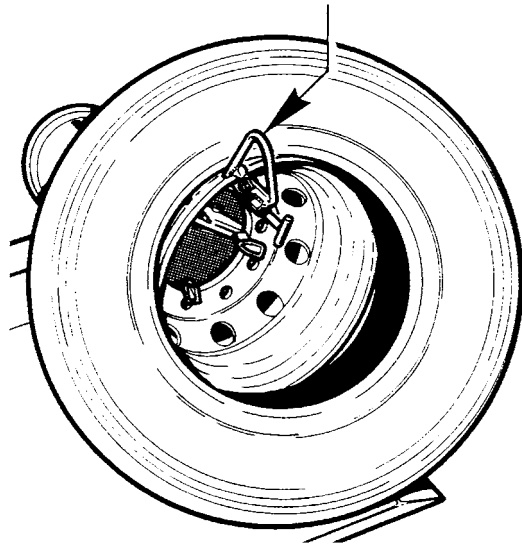

Fig.26
2. Move the chuck arm all the way down. Roll the tire on the foot board and hang it onto the mounting clamp (fig.26).